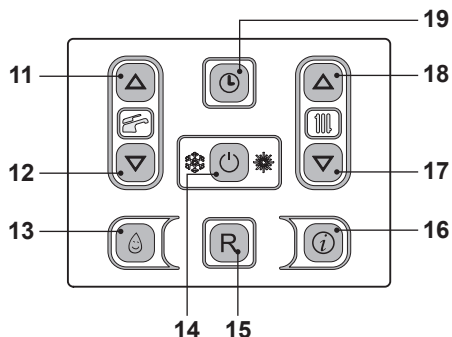

Fig. 2.9
- Press the key 14 for 2 seconds until the  symbol appears on the display Fig. 2.9.
The output temperature of c.h. water can be adjusted by acting on keys 17 (reduce) and 18 (increase) (Fig. 2.9) from a minimum of about 25°C to a maximum of about 85°C. Press one of the two keys once to display the "set" value. Press again to access the modification.
However, if the ambient temperature is not comfortable, the flow temperature of the heating plant can be increased or reduced by $\pm 15^\circ\text{C}$ by acting on keys 17 (reduce) and 18 (increase) (Fig. 2.9).
The heating temperature of the zone valve controlled by a thermostat is configured on the boiler control panel using keys 17 and 18 Fig. 2.9.
The temperature of the d.h.w. can be adjusted by acting on keys 11 (increase) and 12 (reduce) (Fig. 2.9) from a minimum of about 35°C to a maximum of about 60°C. Press one of the two keys once to display the "set" value. Press again to access the modification.